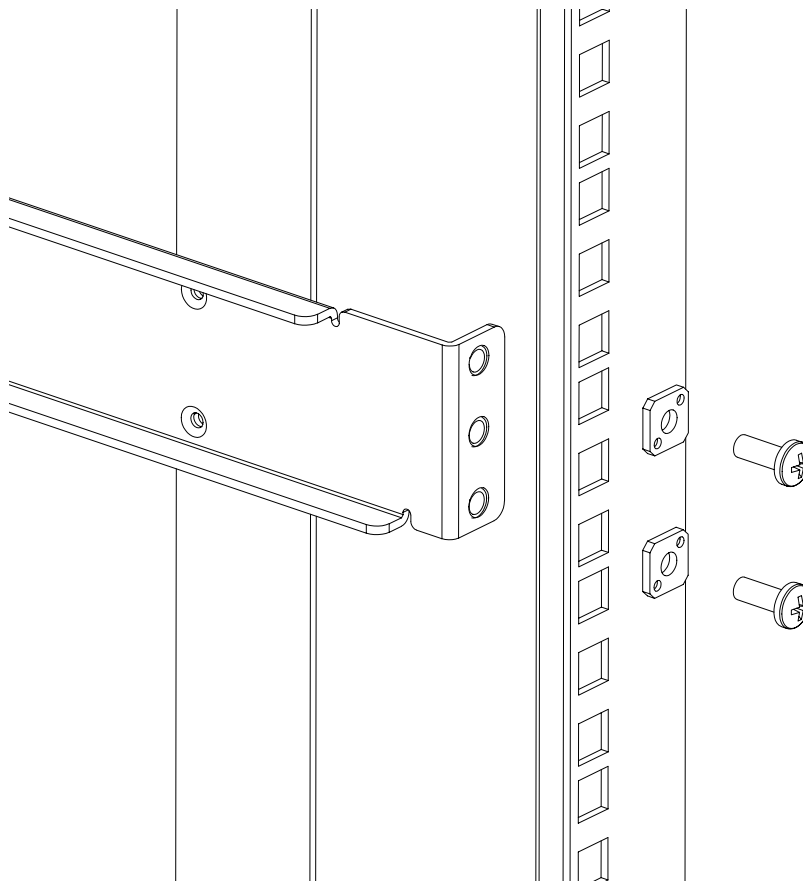

Figure 7: Assembling the outer rails (HP 10000 series or comparable EIA cabinet)
- For an HP 10000 series or comparable EIA cabinet, install two #10-32 x 1/2-inch Phillips pan-head screws with captive star lock washers and two #10 adapter washers in the upper and lower hole locations of the right rail. Then install two #10-32 x 1/2-inch Phillips pan-head screws with captive star lock washers and two #10 adapter washers in the upper and lower hole locations of the left rail. See Figure 7.